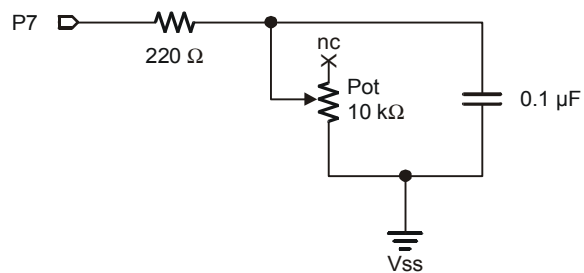
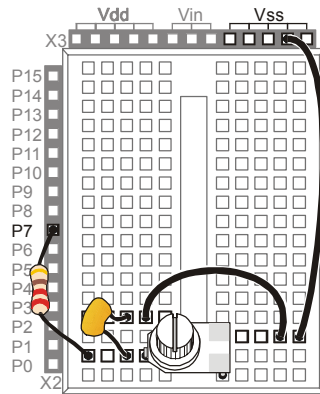

Figure 5-11
Figure 5-12
Figure 5-11 shows a schematic for the fast RC-time circuit, and Figure 5-12 shows the wiring diagram. This is the circuit that you will use to monitor the position of the potentiometer's input shaft with the help of the BASIC Stamp and a PBASIC program.
√ Build the circuit shown in Figure 5-11.
- ✓ Leave your potentiometer RC-time circuit from Activity #3 on your prototyping area. If you need to rebuild it, use Figure 5-11 on page 150 and Figure 5-12 on page 151. Make sure to use the 0.1 μ F capacitor, not the 0.01 μ F capacitor.